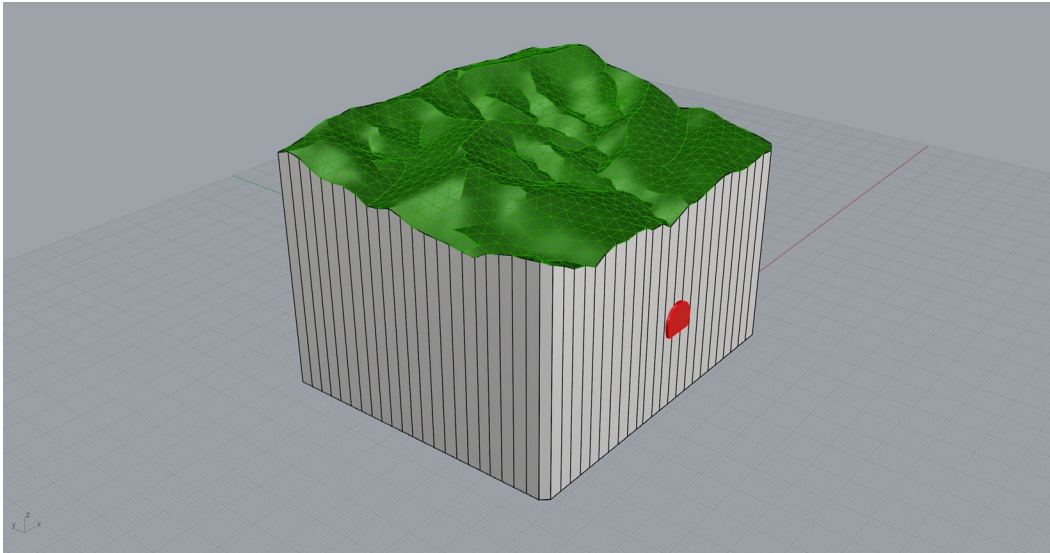

Figure 57: The front part of the tunnel extends through the modeling domain.
24. Turn on the “Tunnel” layer and note that the front and back sections of the tunnel stick out from the domain (Figure 57). Split them by the domain and delete excessive parts.